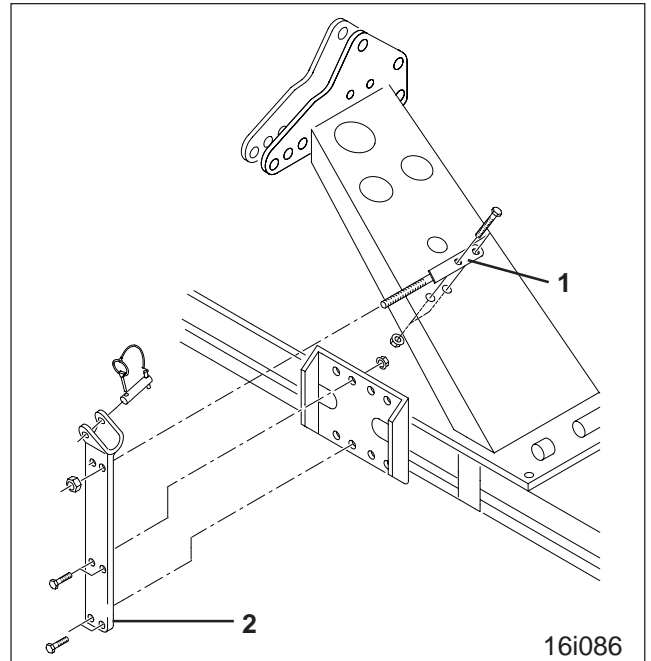
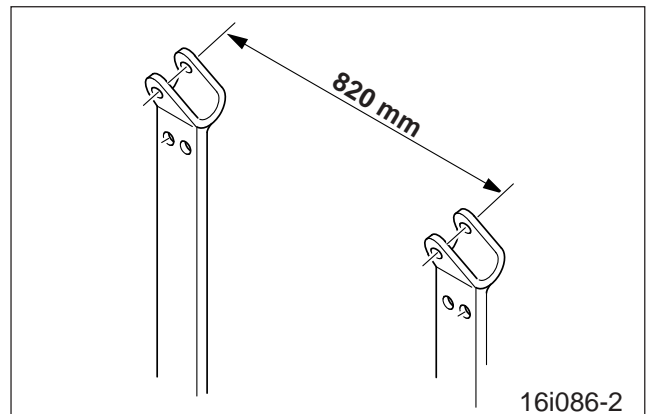

Fig. 6.1
Fig. 6.2
- bolt two pulling shackles (Fig. 6.1/1) onto the top link of the rotary harrow/rotary cultivator.
- Bolt on coupling points (Fig. 6.1/2) and connect with the pulling shackles (Fig. 6.1/1). The spacing between the coupling points (Fig. 6.2) is 820mm.